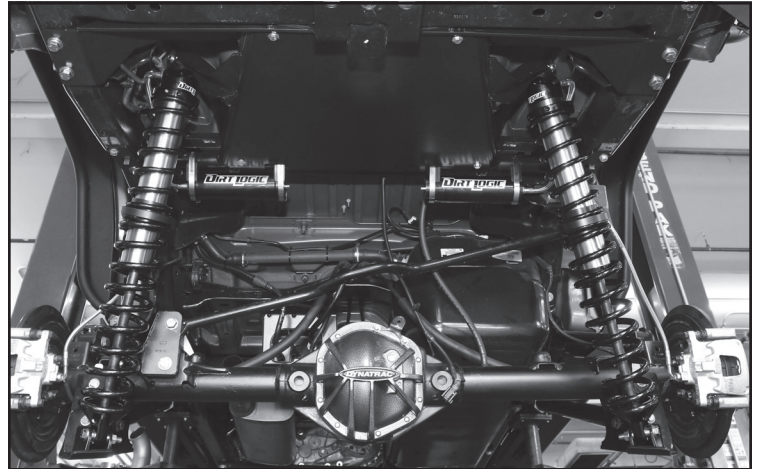

FIGURE 28 - STEP 24
24. See **FIGURE 28** for finished product.